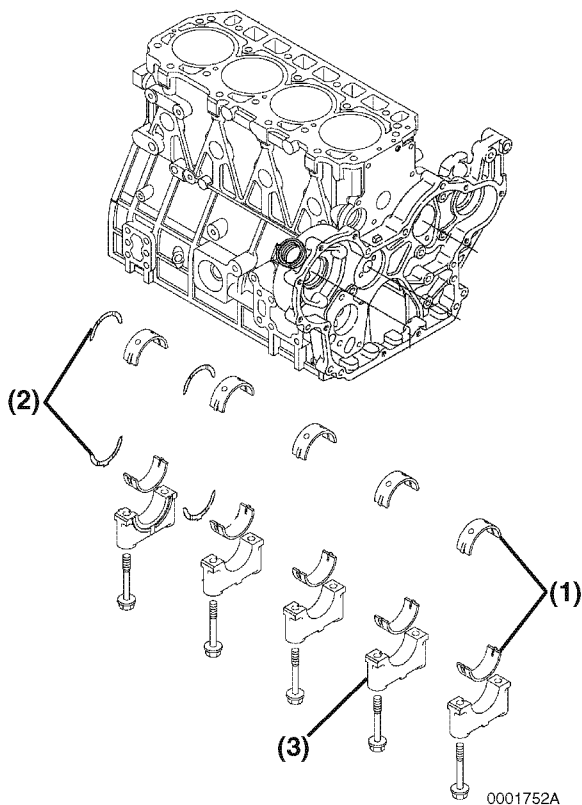

Figure 6-107
4. Remove the main bearing caps (**Figure 6-107, (3)**). Be sure to note the markings on the main bearing caps, or mark them yourself, so they can be reinstalled in the same order as they were removed. Do not remove the bearing inserts at this time.
- Remove the bearing inserts (**Figure 6-107, (1)**) and thrust bearings (**Figure 6-107, (2)**).